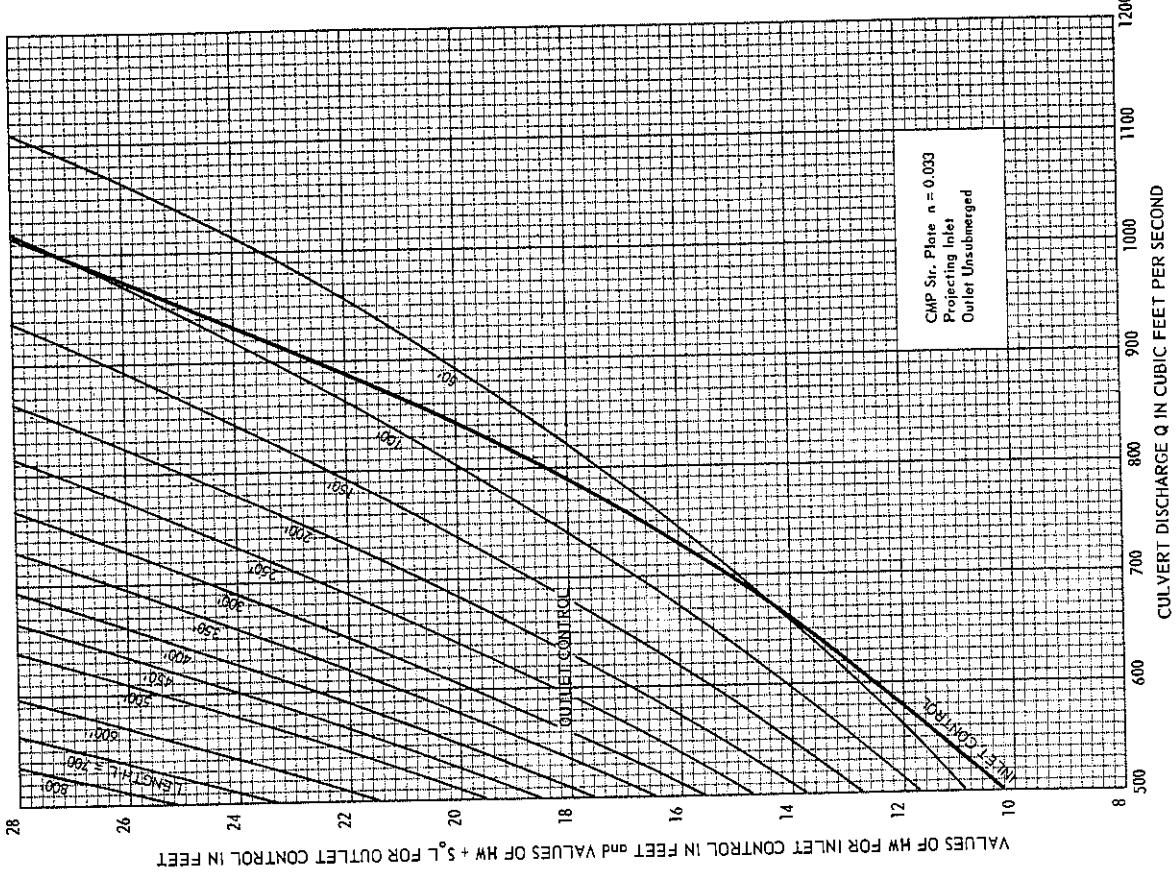

**FIGURE 1:** 96-Inch Diameter Concrete Pipe
**Solution:** Enter *Figure 1: 96-Inch Diameter Concrete Pipe*, and project a vertical line from  $Q = 900$  to the inlet control curve and outlet control curve representing  $L = 500$  feet. Read headwater depth of 15.7 feet for inlet control and 17.7 feet for outlet control. To obtain outlet control headwater depth, subtract  $S_o \times L$  from the outlet control figure:  $17.7 - (0.012 \times 500) = 11.7$  feet; therefore, inlet control governs.
The significance of these hydraulic advantages of concrete pipe is illustrated by the performance curves presented in *Figures 1 through 14*. The curves correlate discharge-headwater depth and are based on nomographs included in *Hydraulic Engineering Circular Number 5*, Hydraulics Branch, Bridge Division, Office of Engineering and Operations, Bureau of Public Roads.